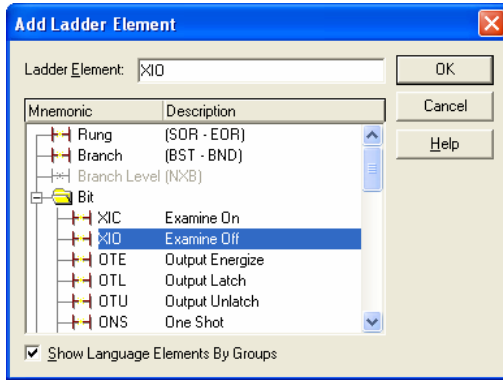

Figure 43: Adding an XIO Element
- Select the “XIO” element in the Bit folder. Refer to Figure 43.